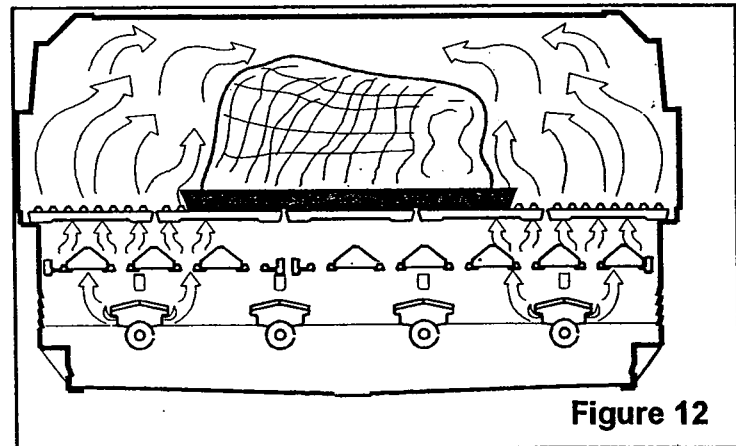

Figure 12
20. Place the Porcelain cast iron cooking surfaces in position (Figure 12).